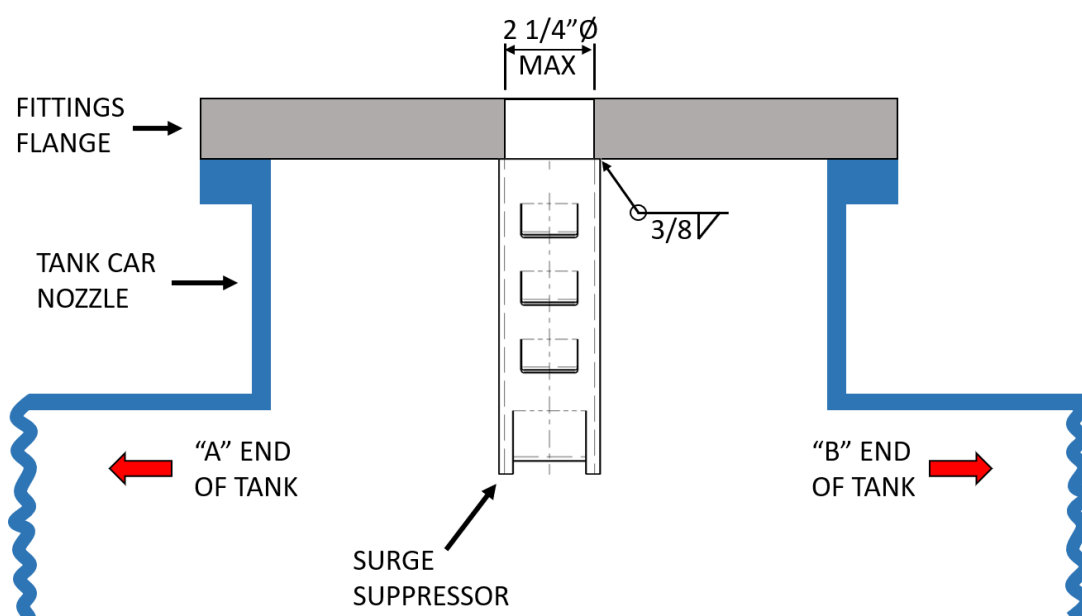

Figure 1: Surge Suppressor Installation
1.1.4. Figure 1 below demonstrates the expected installation on a car.